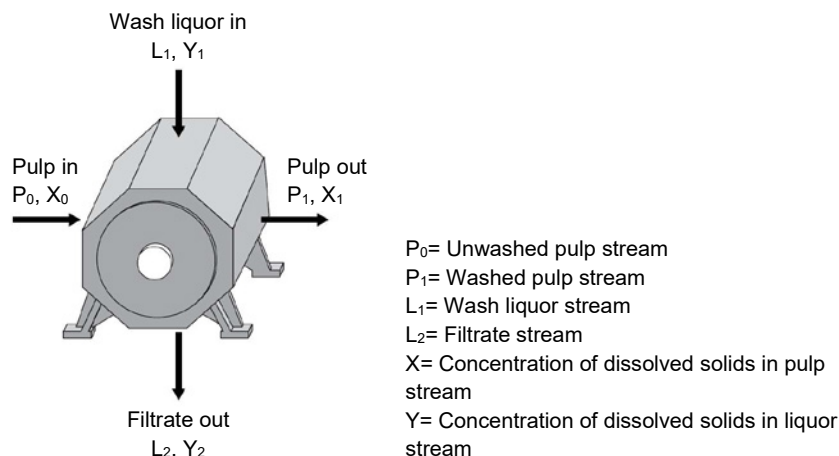

Figure 8 Modelling individual washer for efficiency calculation.
Moreover, TDS measurements allow monitoring the mass balances easily and continuously and facilitate the creation of washing efficiency models, either of the whole washing line, or only of a single washer (Figure 8). Real time calculation of efficiency metrics such as E-value and Displacement Ratio (DR), provides important information for the operators to alter washing parameters when necessary, and ensures the best washing result.